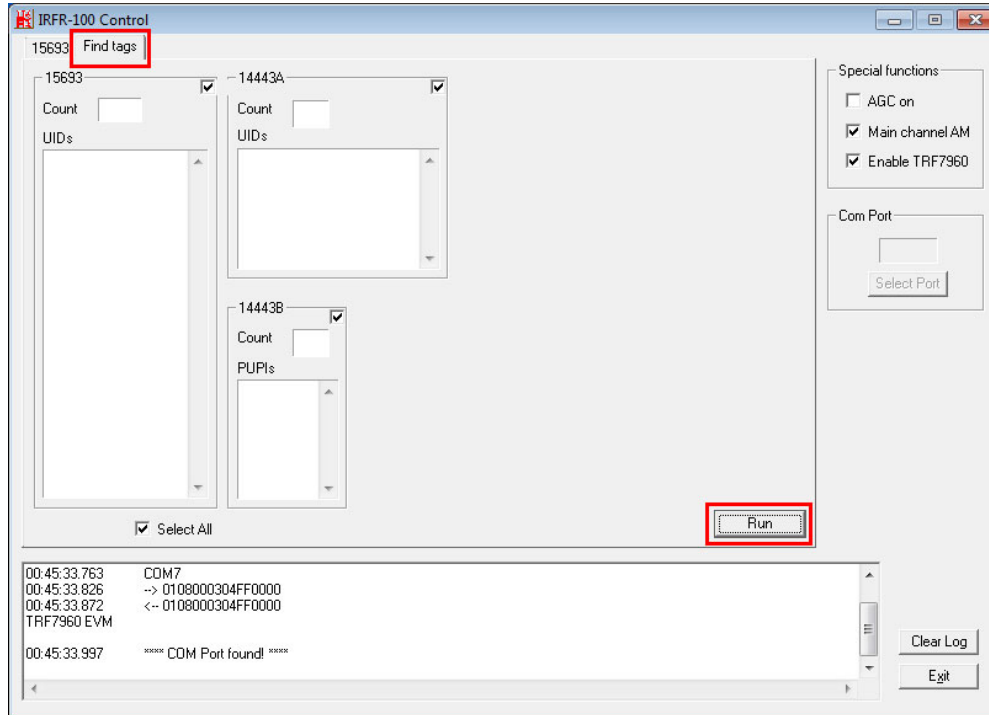

Figure 3-21: IRFR – Find Tags
Step 5: Select the **Find tags** tab and click the **Run** button to enable the RFID reader (**Figure 3-21**).